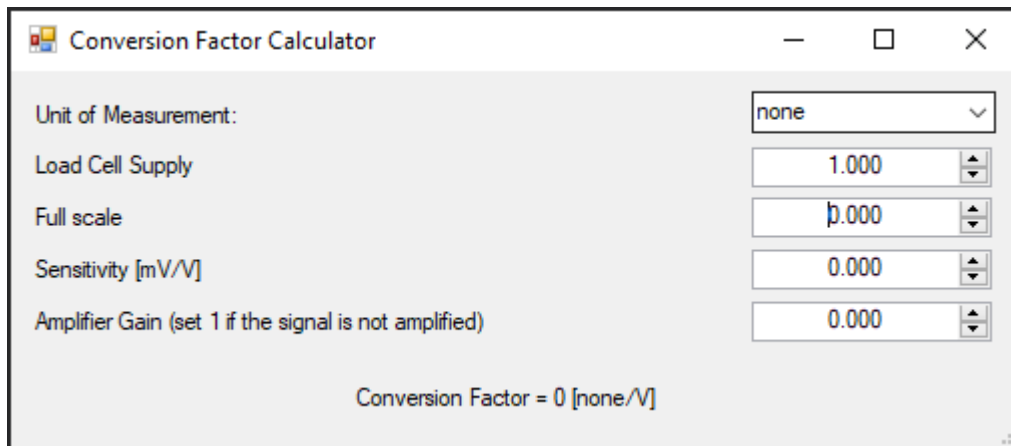

Fig. 4.11: Conversion factor calculator.
- **Conversion Factor Calculator:** calculates the conversion factor from Volt to the unit of measurement entered, the user must enter in the listed below fields the values shown on the device (see figure 4.11).